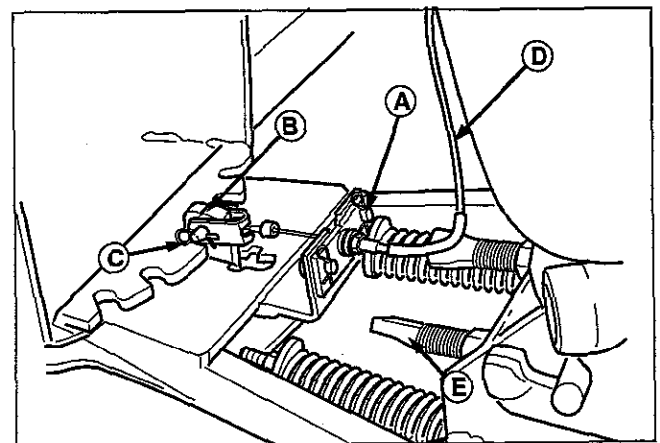

figure 9
5. See figure 9. Attach the cable (D) to the sweeper using hairpin clips (A) as shown.
6. See figure 9. Attach the end of the angling cable to the locking tab (B) using a clevis pin and hairpin clip (C).
1. See figure 9. Adjust height screws (E) to make the hitch pivot assembly parallel to the ground.